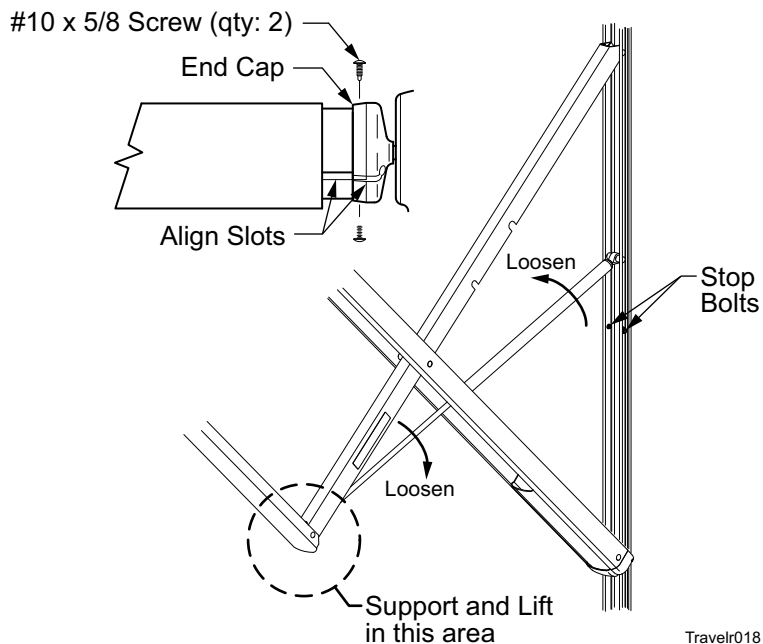

Figure 4. Replacing the Shock.
5. Support the arm in the area shown in Figure 4.
10. Lift and hold the arm up in the area indicated in Figure 4. The arm should be unfolded and extended as far as possible.